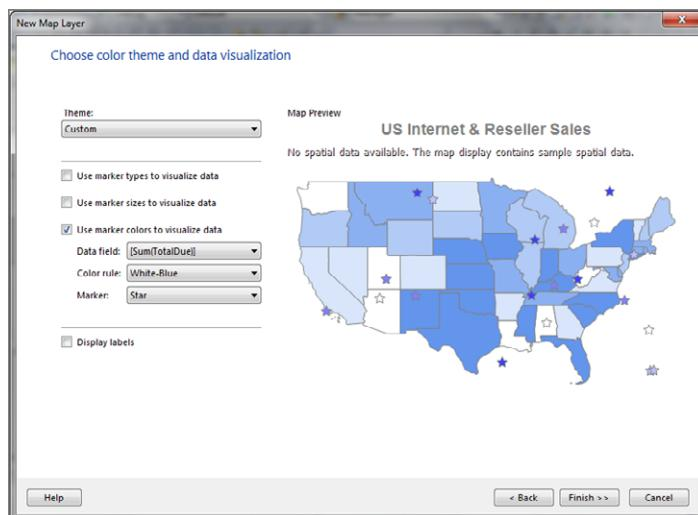

Figure 10-16
9. Configure the layer so that resellers are marked with a star and that the marker color is used to visualize the data, as shown in Figure 10-16. Select White-Blue as the color rule.